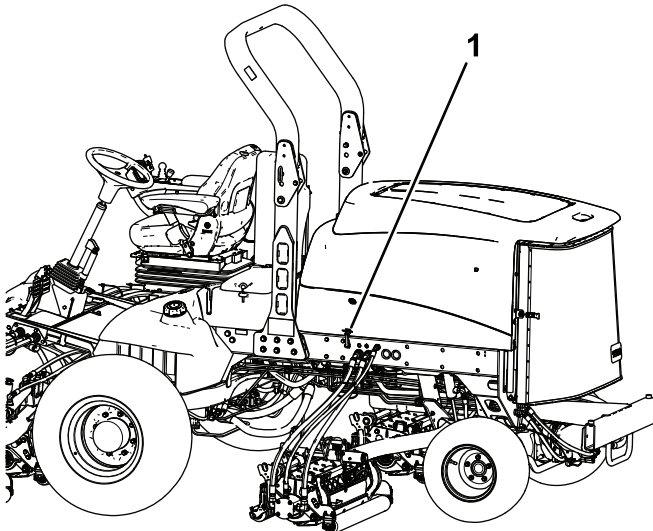

Figure 33
1. Unhook the hood latch from the hood-latch bracket (Figure 33).